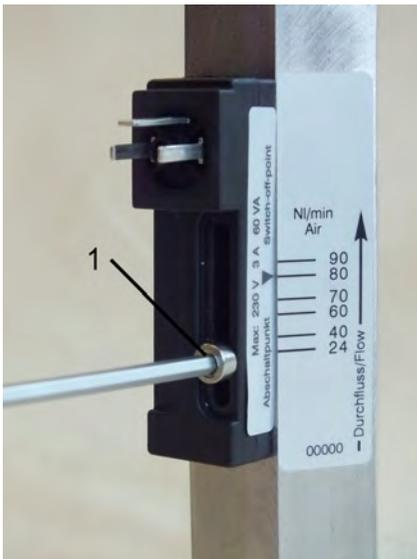

Fig. 31: Loosen set screw
1. ➤ Loosen the set screw of the switch contact ( Fig. 31/1) using a Hex screwdriver.
3. ➤ Re-tighten the set screw of the switch contact ( Fig. 31/1) using a Hex screwdriver. When doing so, observe the correct tightening torque of the screw.